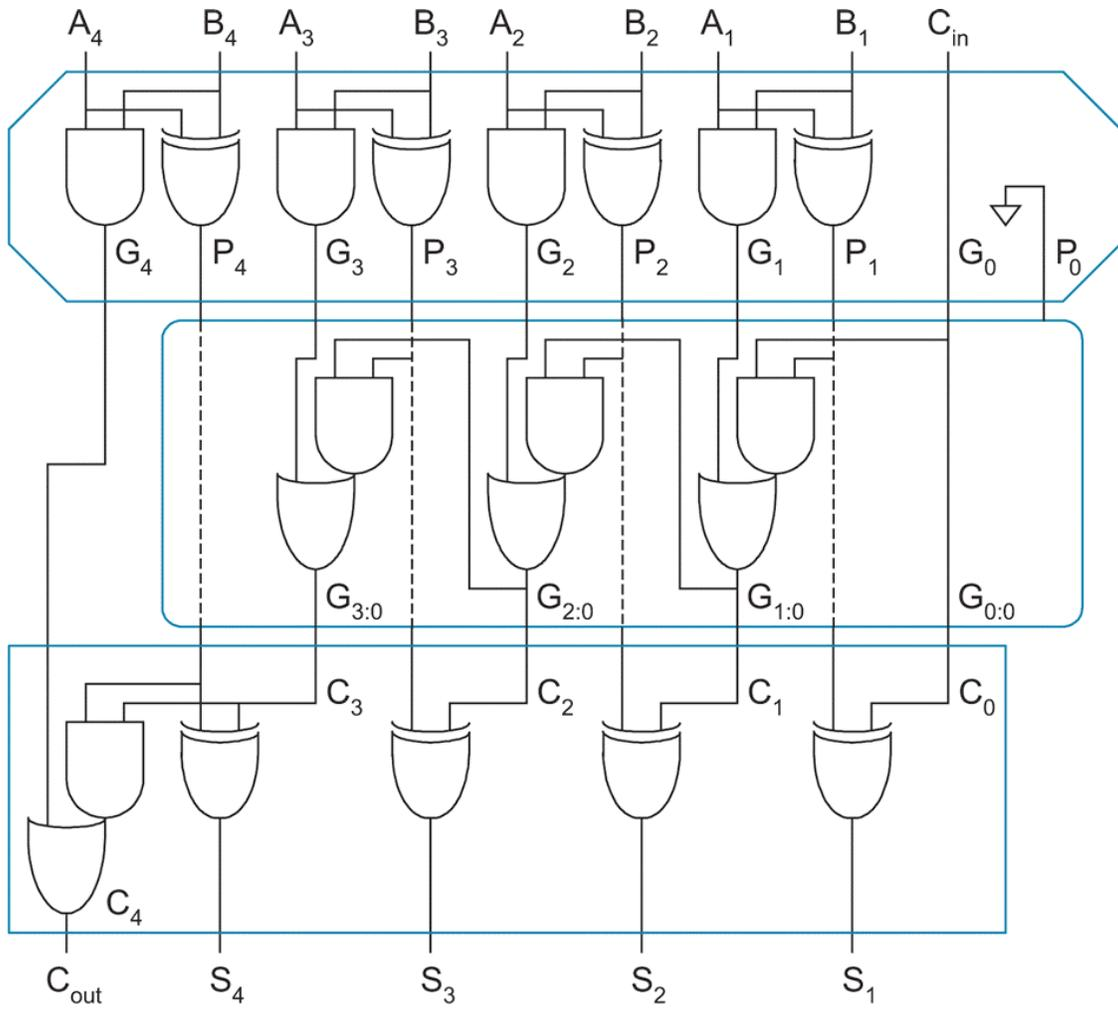
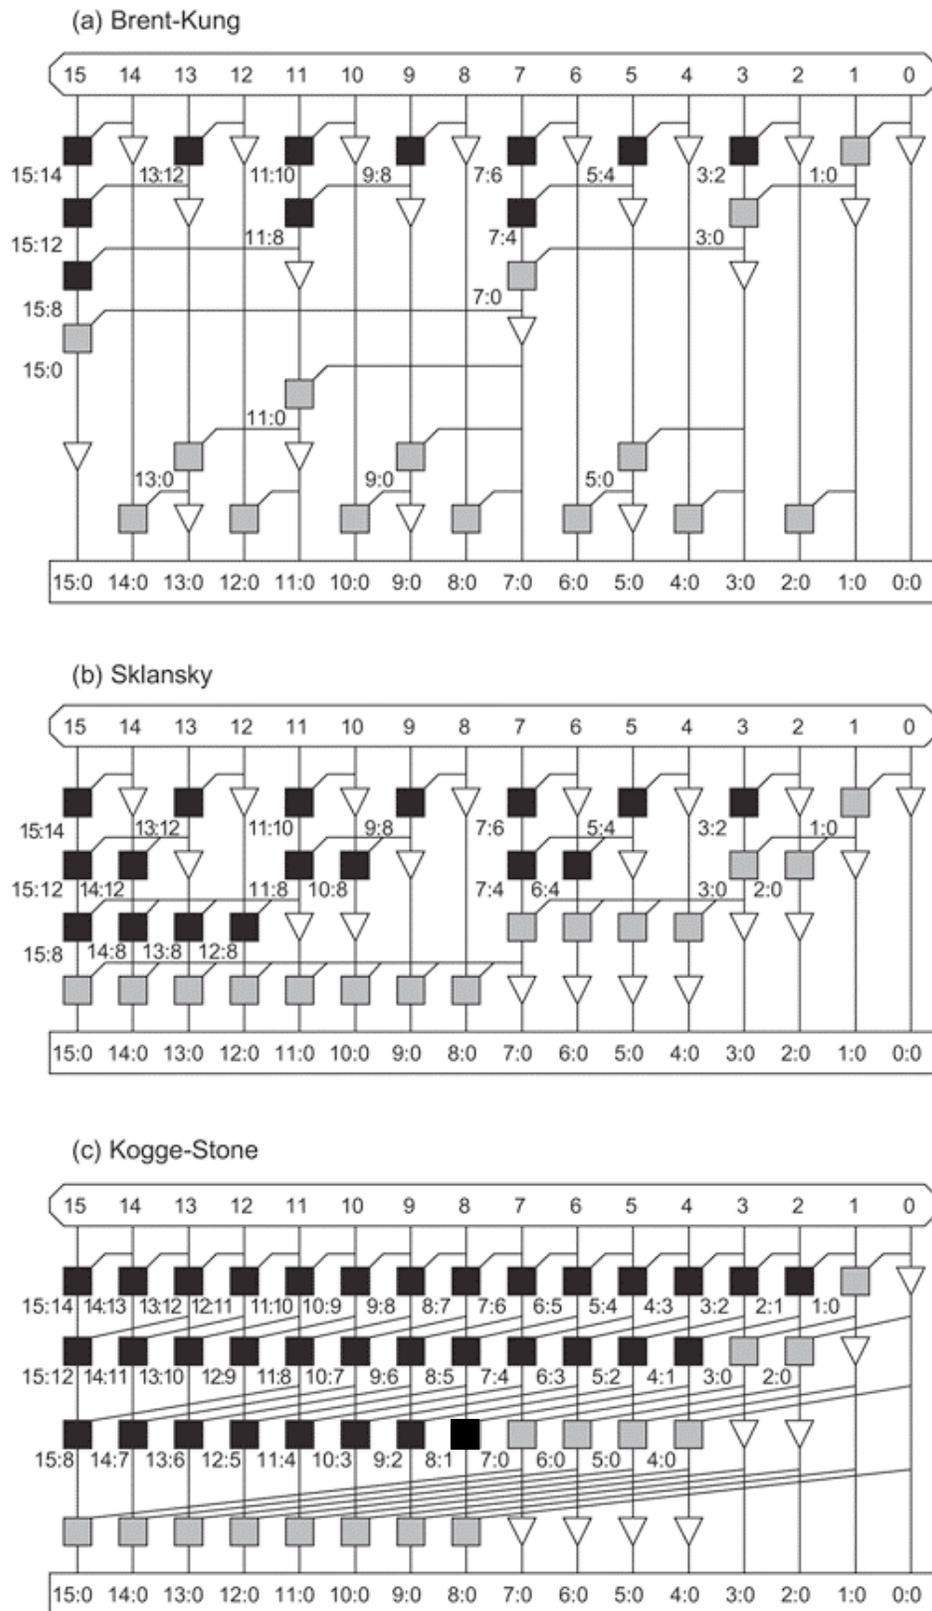

FIG 10.15 4-bit carry-ripple adder using PG logic
FIG 10.34 Tree adder PG networks
2. Remember that all the adders have an implicit PG or PAG generator at the top for all bits, and XORs at the bottom for all bits to generate the sum. You'll need to include those in your adder. See Figure 2.13 in your text for an example, or Figure 10.15 from the alternate text that's included in this handout. Also remember that some of the "wires" in the black/gray diagrams are double-wires that have both P and G, and some are single-wires that have just G.
Now look at figure 2.20 in your text. This is essentially an 8-bit Sklansky adder as described in Fig. 10.34 included in this handout. Note that the bit numbering is a little different in the two diagrams. In the book the inputs are labeled 7-0 as you would expect, and the C0 input is the carry in to the low order bit. In Figure 10.34 from the other book that's included in this handout, C0 is still the carry in, but the bits are numbered 8-1 which is a little odd. You can see what's going on in the Fig 10.15 from the alternate book: this is a 4-bit ripple carry adder with the PG generators at the top, the Sum generator at the bottom, and the carry cells (grey cells) in the middle. Note that the Sum is labeled 4-1 which is odd. That means that the examples given in Fig. 10.34 in this handout are really for 15-bit adders with the bits labeled 15-1 and the carry in at C0. Odd. So, keep that in mind as you extend your adders to 32 bits. I want a full 32-bit adder with a carry-in input.
Figure 10.34 continued.